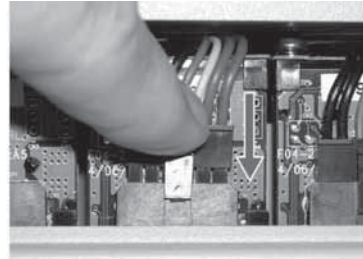

Figure 5: Battery Connector Access Panel
4. Rotate the battery connector access panel down by gripping the tab on either side as shown in Figure 5.